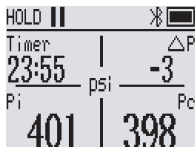

Figure 3 Pressure hold start interface
5. Start leak test : click after the device reaches  the pressure warning value to start the leak test , and the timer starts counting down ( Figure 3 ) .